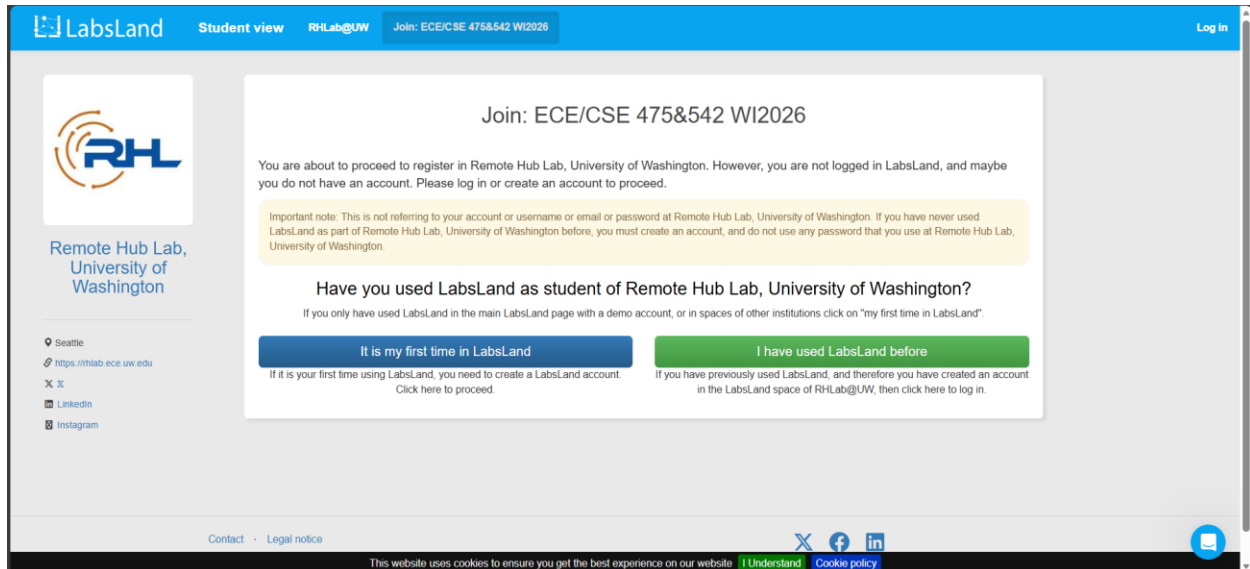

Figure 2
1. Please contact RHLab or LabsLand to receive an access link to the remote lab. After you click the given link, you should see a similar page to that in Figure 2.